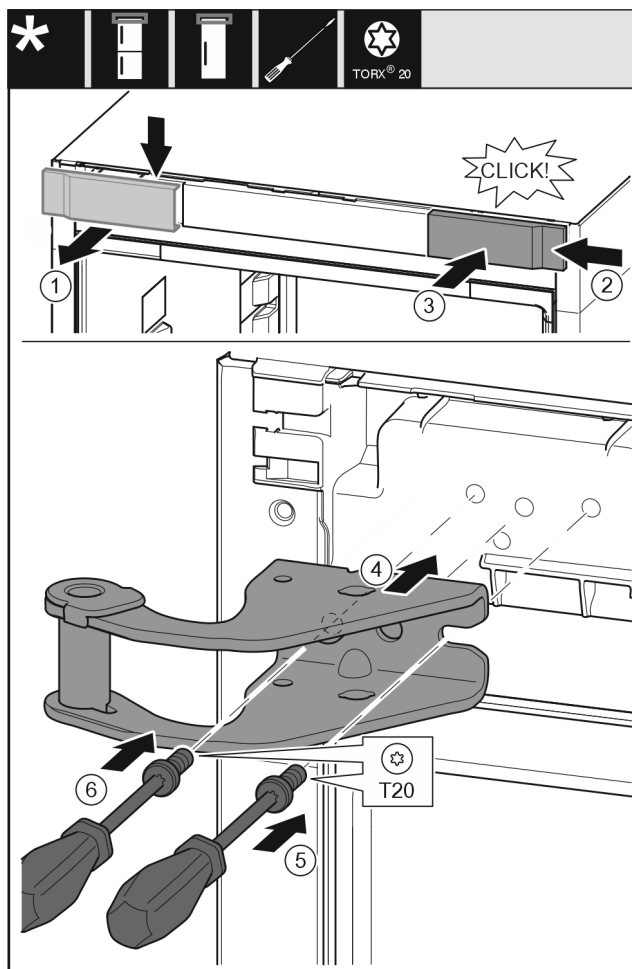

Fig. 33
- ▶ Remove the cover Fig. 33 (1) from above towards the front.
- ▶ Turn the cover Fig. 33 (2) by 180° and attach to the other side from the right.
- ▶ Engage the cover Fig. 33 (3).
- ▶ Place the top swap bearing block Fig. 33 (4).
- ▶ Use screwdriver Fig. 33 (5) to place the screw and tighten it.
- ▶ Use screwdriver Fig. 33 (6) to place the screw and tighten it.